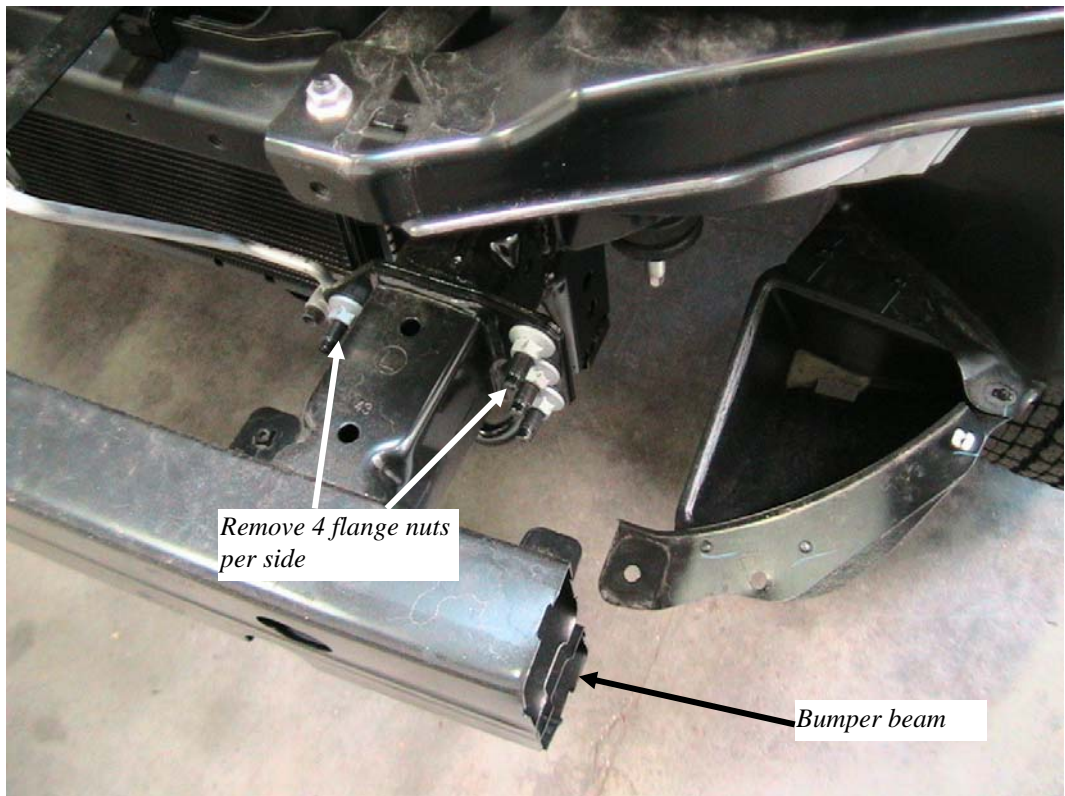

Figure 10 Bumper beam, left side shown
10. Remove the 8 hex flange nuts and remove the bumper beam. Retain the hardware for bumper installation. **Figure 10**